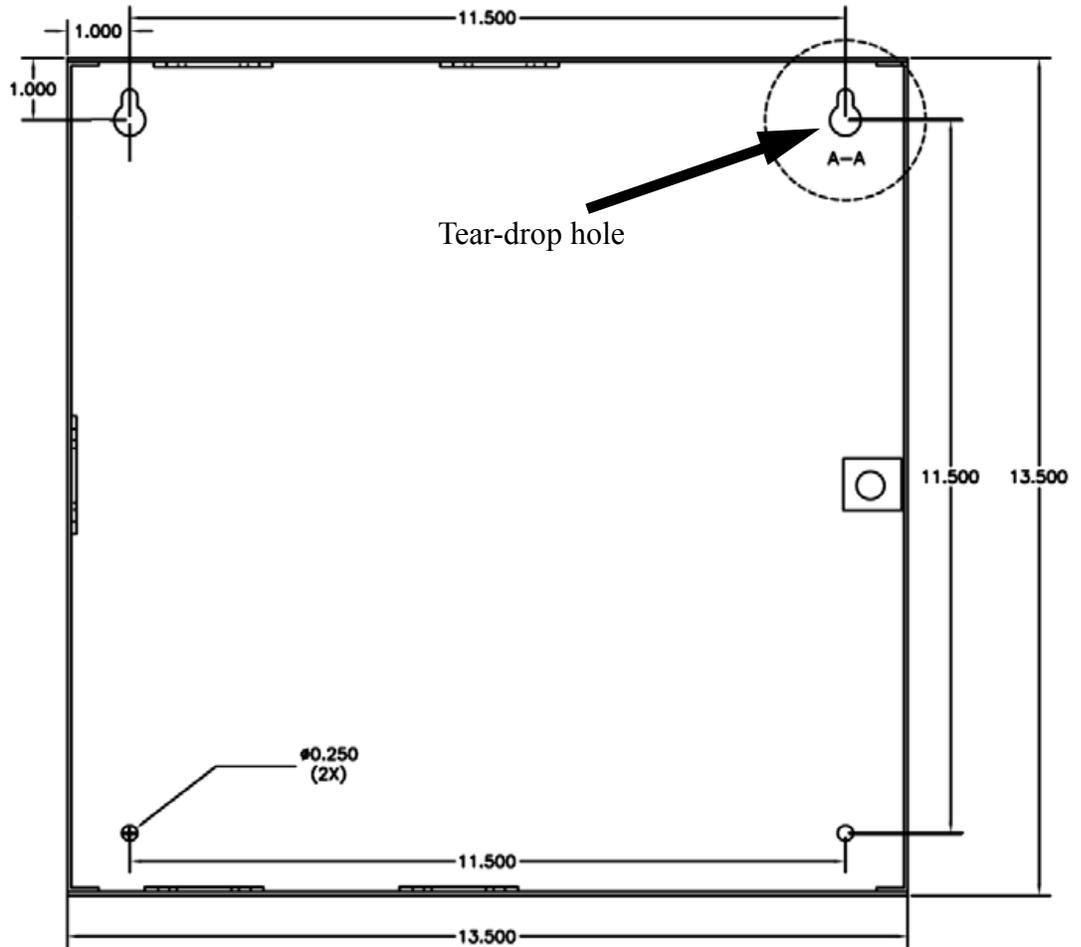

Figure 7-15 FAES Cabinet
2. Lift the door up and away: the four fastening holes (two tear-drop and two regular) are located in the corners, at the back of the FAES cabinet (Figure 7-15).